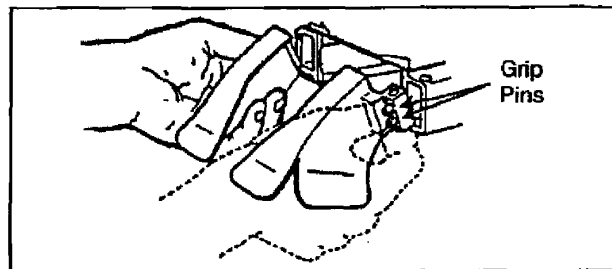

Figure 071-030-0001-1. Removal of feed throat assembly
- a. Place the safe/fire switch in the SAFE (S) position. Ensure the bolt is forward.
- a. Remove the feed throat assembly (figure 071-030-0001-1). Squeeze the two sets of grip pins together and pull them straight out.